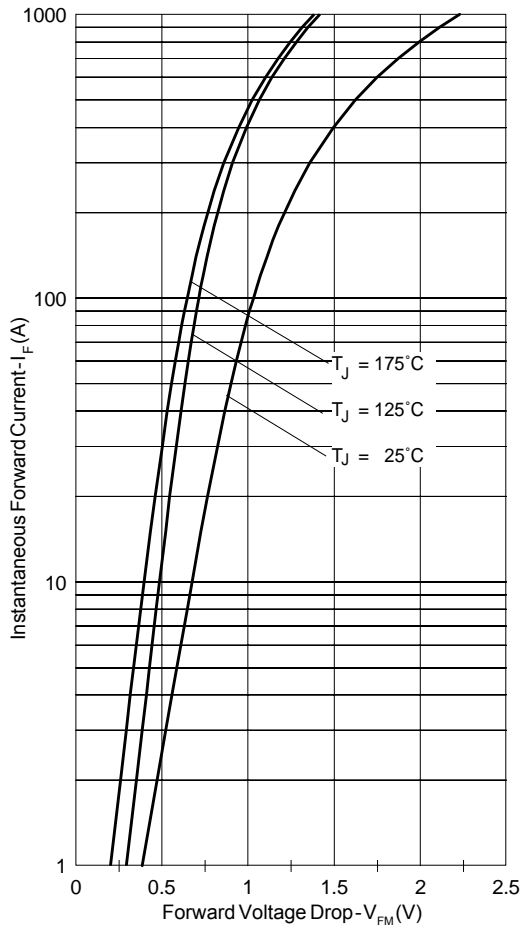

Fig. 1 - Max. Forward Voltage Drop Characteristics
| V_{FM} Max. Forward Voltage Drop (1) * See Fig. 1 | 1.07 | V | @ 120A |